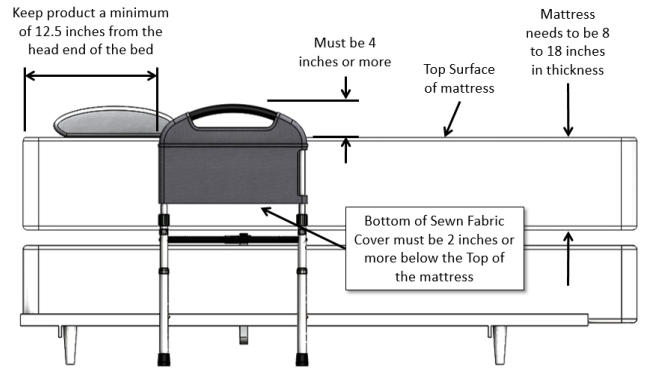

FIGURE 6
7. **Entrapment Warning:** Install the Sewn Fabric Cover over the Handle as shown in Figure 6. Do NOT use the product without the Sewn Fabric Cover installed. Do NOT alter the Sewn Fabric Cover in any way. The Sewn Fabric Cover helps prevent getting entrapped within the bed rail (see the **Entrapment Prevention Guidelines** sheet provide with these instructions).